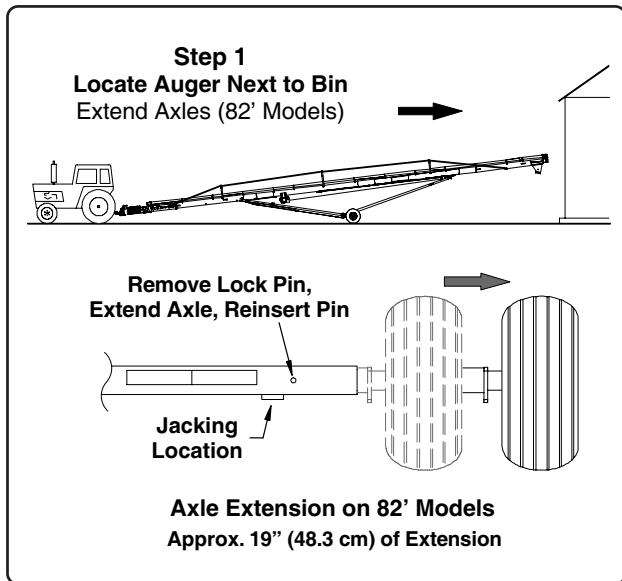

Fig. 2
1. Move the auger into its working position with a towing vehicle (See Fig. 2). Locate the auger as close as possible to the bin, or other storage structure (**move auger slowly towards the bin with the towing vehicle - not by hand**).